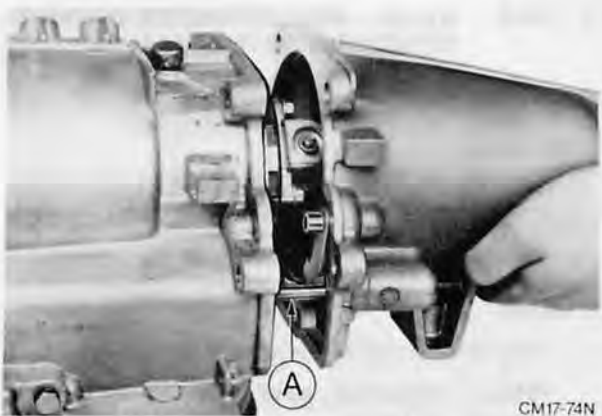

Fig. 144. Fit extension housing
7. Fit transmission extension housing using a new gasket, paying attention to correct seating of parking pawl actuating rod, Fig. 144. Torque bolts as specified.